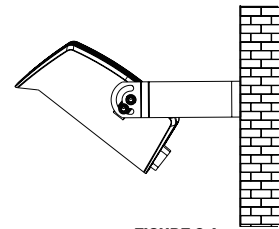

FIGURE 2.4
3. Loosen screw; Adjust fixture angles as per actual demands and tighten screws later. (FIG 2.4) Tip: Angles of the fixture is adjustable